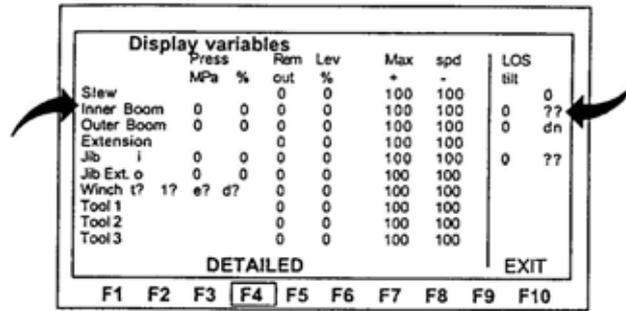

Figure 34 Summary Menu
- d. On the summary menu, observe whether the signal from the tilting indicator is 'up' or 'dn' (down). Adjust the tilt indicator on the inner boom to the position where the signal shifts between up/dn. Refer Figure 34.